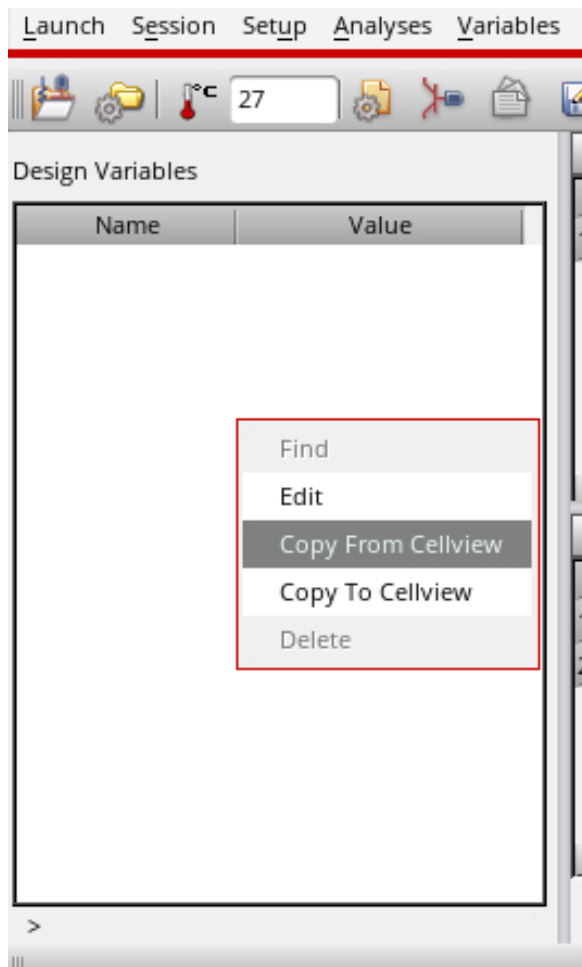
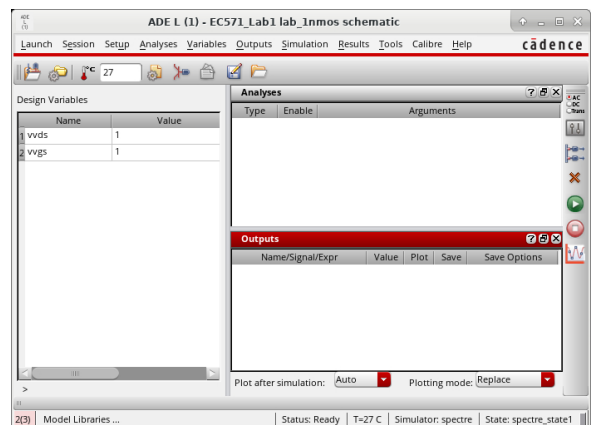

Figure 18: Copying variables from the schematic view
Figure 19: Setting up simulation variables in the “ADE L”
- In the “ADE L” Window, right click in the “Design Variables” panel and select “Copy From Cellview” (Figure 18). Cadence needs all variables initialized to some value, so set “vvds” = 1 and “vvgs” = 1 (see Figure 19) Cadence Virtuoso already knows that the units for vvds and vvg is volts.